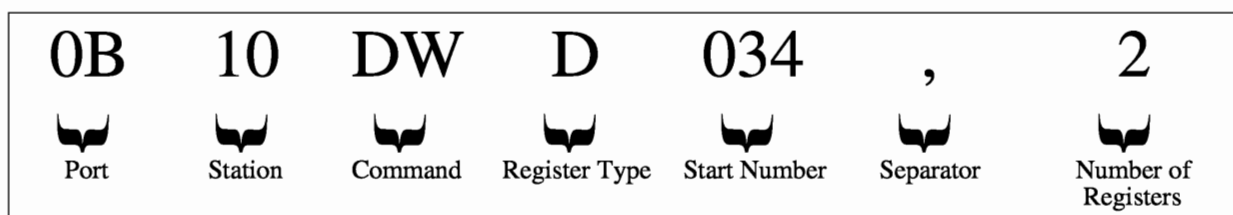

Figure 3-43 Example 5 of Remote Variable Address
**Note 5:** Example in figure 3-43 shows a '**Device/Register Write'** command issued to an EX2000 device to write to 2 Data Registers starting at register 34.